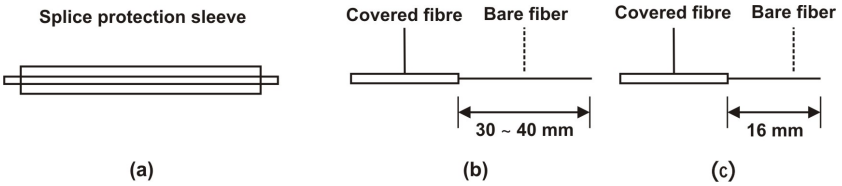

Figure 3.-
To protect joint after fusion, you should enclose the fiber into the splice protection sleeve. Please consult figures 3 (a).
- 1.- Strips cover about 30mm~40mm with fiber coat stripper and clean the dirt of bare fiber with alcohol tampons. Please consult figure 3 (b).
- 2.- Cut the bare fiber with fiber cleaver and hold it about 16mm as figure 3 (c) shows.